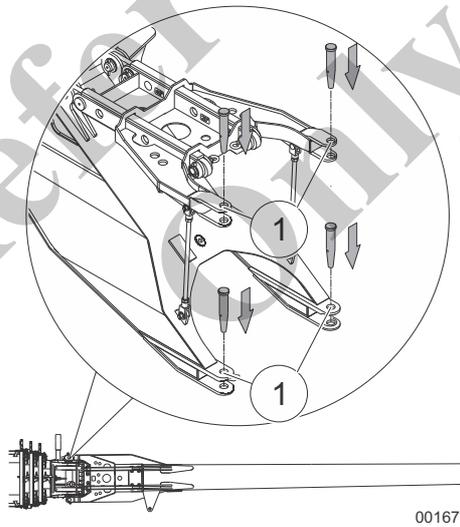

Fig. 185 Bolting the fly boom
- 15 | Bolt the fly boom to the telescopic boom at the bolting positions (1) in Fig. 185 and secure them with locking bolts.